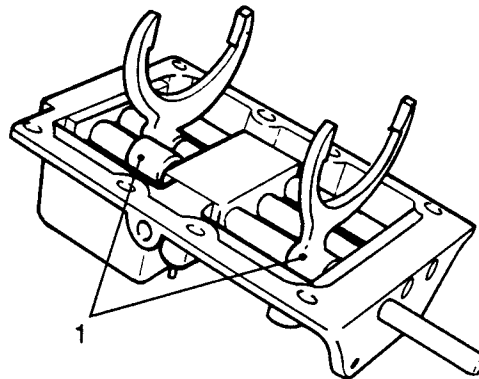

Fig H1.118
- (5) Refer to Fig H1.118. Remove the spring pins (1) that hold the selector shaft fork and 1st and 2nd gear fork.